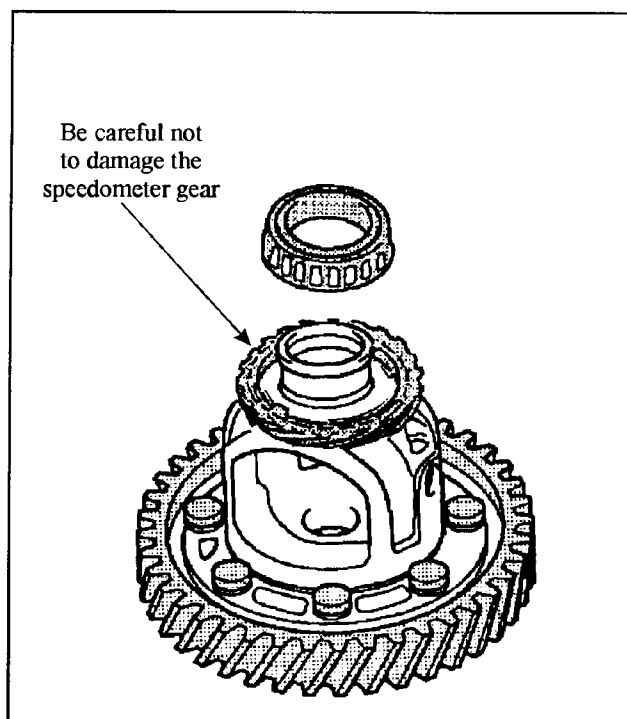

Figure 100
6. Heat the differential to 100 degrees F. then remove the tapered roller bearing (See Figure 100)